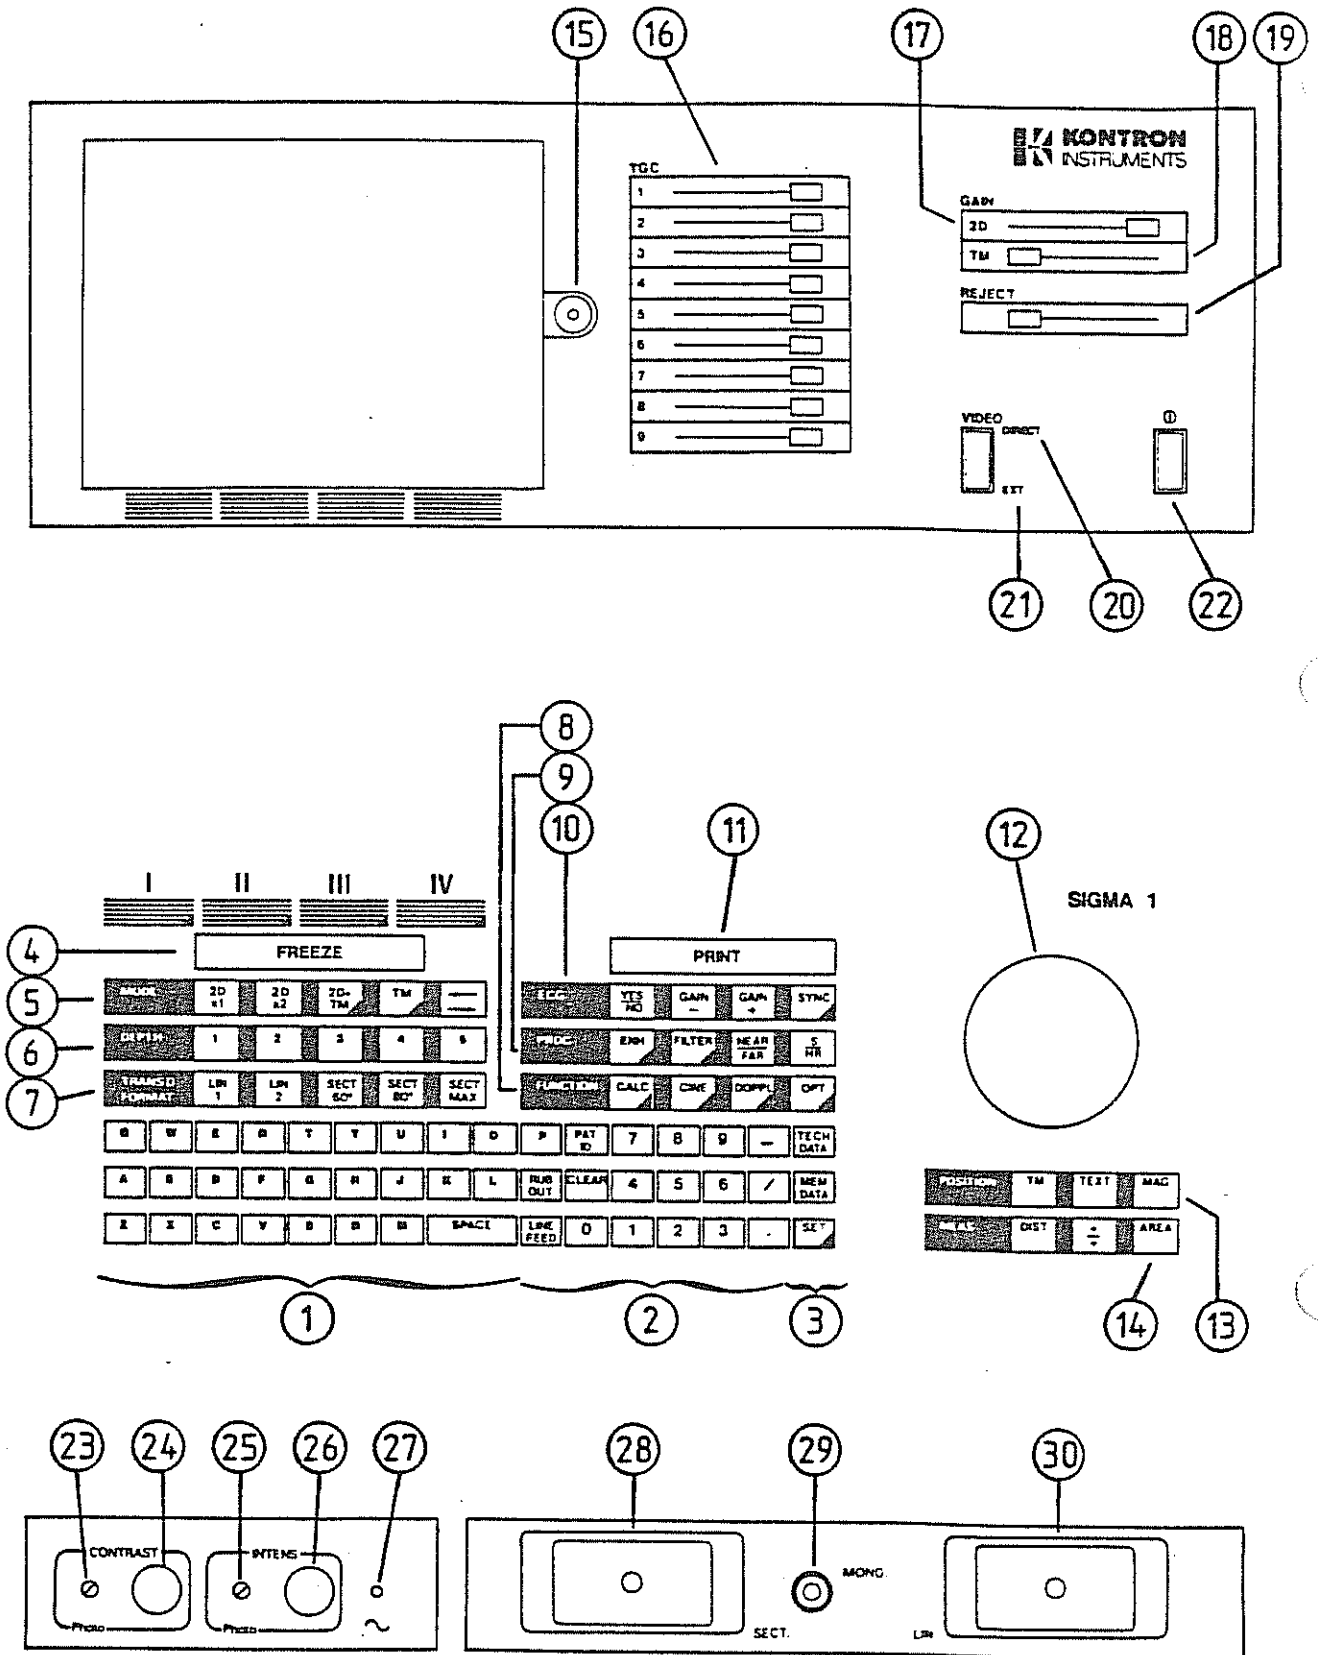

Figure 2-1 Front panels
The upper panels (See Figure 2-1, items ① through ②②) contain :
The lower panel (Figure 2-1, items ②③ through ③①) contains :
KEYS FOR FIGURE 2-1
The letters and numerals of the keyboard (Figure 2-1. Items ① and ②) allows the user to formulate and enter patient and examination data.
The dedicated function keys (Figure 2-1, Items ① , ② and ③) are described as follows :
The function keys (Figure 2-1, Items ④ through ⑪, ⑬ and ⑭) have the following functional characteristics :